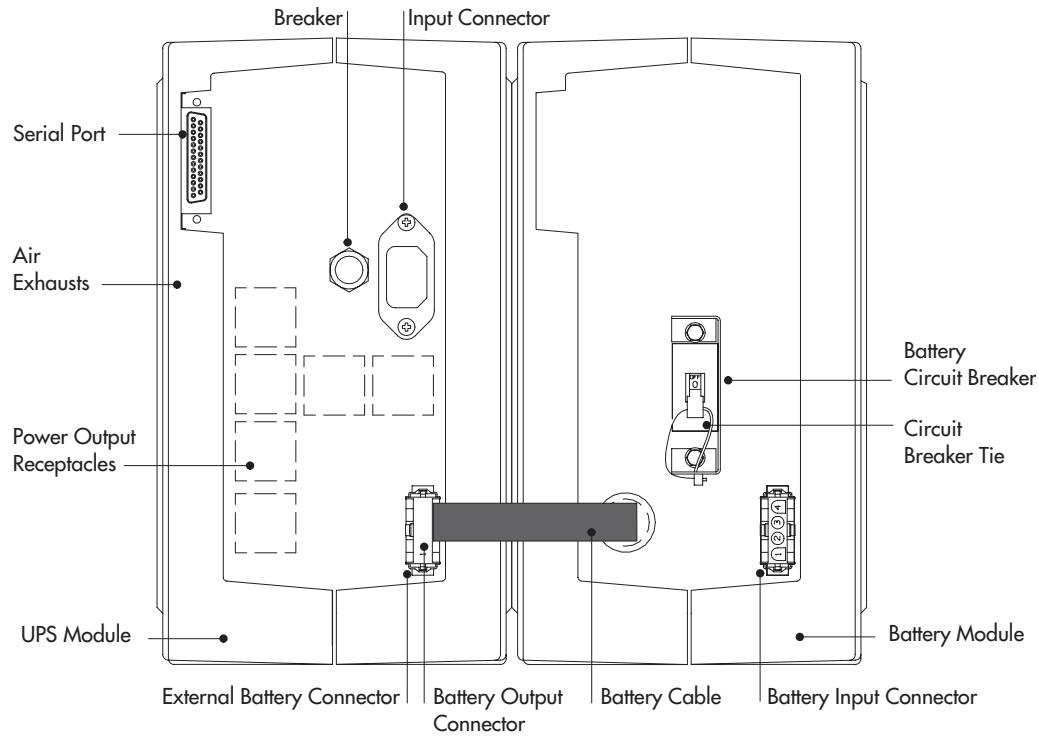

Figure 4. Typical UPS Rear Panel
Whenever the units are not energized, make sure the circuit breaker on all battery modules is returned to the OFF (O) position (see Figure 4 on page 22).
- 3** Make sure the circuit breaker on all battery modules is in the OFF (O) position (see Figure 4).